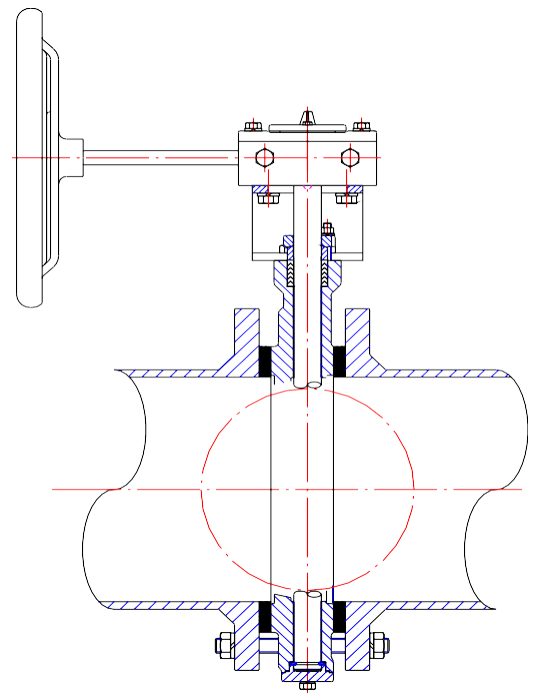

Fig.6
7.6. Make sure the valve to installed between flanges and concentrically with flanges, thus could prevent the disc damaged by the interfering with flange and pipeline (Fig.6)